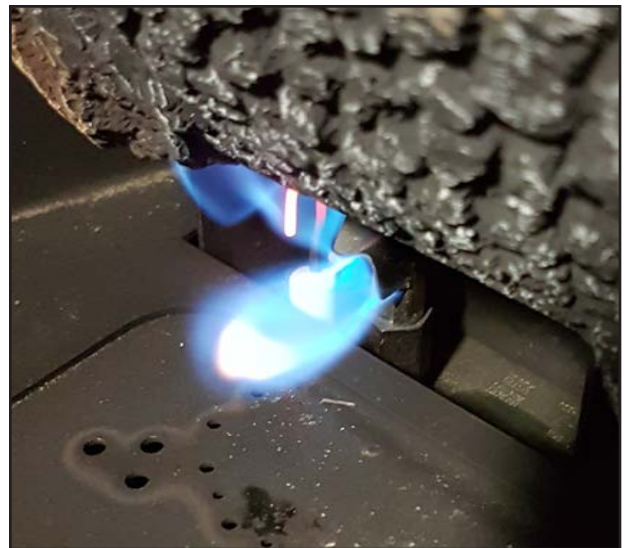

Figure 24. Correct Pilot
Periodically do a visual check of the pilot flames. One flame should encompass the flame sensor and the other should burn over the burner ports (see Figure 24, page 21). Also check that the burner is operating correctly, refer to Venturi Adjustment section.
8. Reinstall the burner, log set, and glass door. Also refer to SECONDARY INSTALLATION - LOG SET INSTALLATION in your Owner's Manual. When re-installing the burner, ensure that the burner to pilot hood and shield relationship is similar to what is shown in Figure 24.
12. Relight the pilot and confirm the flame properly covers the flame sensor (see Figure 24). Should the pilot require adjustment, turn the adjustment screw (figure 34, page 29) clockwise to decrease or counterclockwise to increase until the correct flame is achieved.